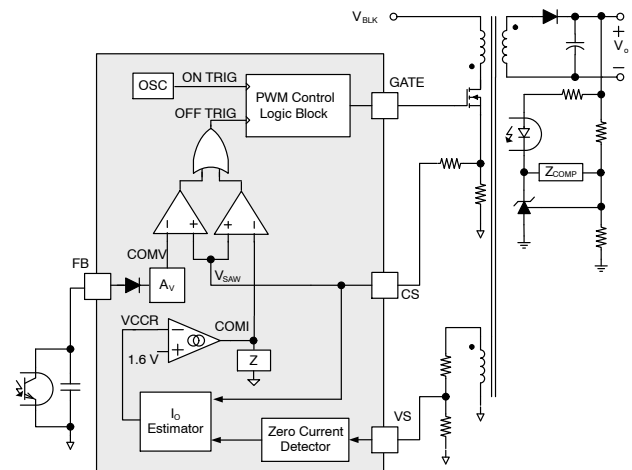

Figure 21. Simplified PWM Control Circuit
Figure 21 shows the simplified CV PWM control circuit of FAN6080HMX. In constant voltage (CV) regulation, the output voltage is sensed via a voltage divider and compared with the internal reference of shunt-regulator to generate a compensation signal. The compensation signal is transferred to the primary side through an opto-coupler and fed to FB pin. The FB signal is level shifted, and scaled down by an internal attenuator A_V to generate the COMV signal. The COMV signal is then applied to the PWM comparator to determine the PWM duty cycle, as shown in Figure 21.
In constant current (CC) regulation, the output current estimator calculates the output current using the transformer primary side current and the rectifier diode conduction time which is sensed on the VS pin. By comparing the estimated output current with an internal reference signal, COMI signal is generated, which determines the PWM duty cycle, as shown in Figure 21.
Two internal comparators are used to compare the COMV and COMI signals with sawtooth waveform (V_{SAW}) in order to determine the PWM duty cycle. As shown in Figure 21, the outputs of the two comparators are combined with an OR gate to determine the MOSFET turn-off instant. The lower between the COMV and COMI signals determines the PWM duty cycle. In CV mode, COMV determines the PWM duty cycle while COMI signal is saturated to high level. Whereas, in CC mode, COMI determines the PWM duty cycle while COMV signal is saturated to high level.